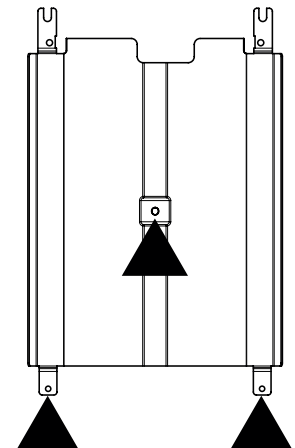

Figure 14b
2. The flame spreader is attached with two tabs or shoulder brackets and secured with three screws. Remove The screws, slide flame spreader back, and lift the spreader out of the oven cavity (see Figure 14b).